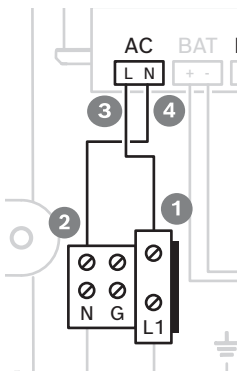

Figure 3.2: Connections of the LED indicator
2. Connect the blue wire to the port marked with N (Figure 3.2, positions 2 and 4).
3. Connect the brown wire to the port marked with L (Figure 3.2, positions 1 and 3).
4. Connect the single brown wire to position 3, marked with L (Figure 3.2).
5. Connect the other end from the brown wire to position 1, marked with L1 (Figure 3.2).
6. Connect the single blue wire to the position 4, marked with N (Figure 3.2).
7. Connect the other end from the blue wire to the position 2, marked with N (Figure 3.2).
2. Connect the neutral wire to terminal N (Figure 3.2).
3. Connect the phase wire to terminal L1 (Figure 3.2).